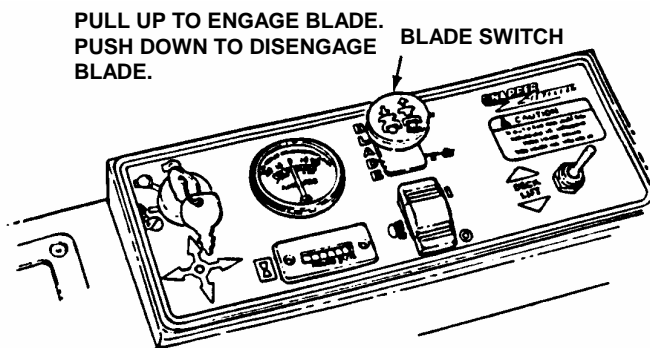

**FIGURE 2.1**
**2.1.3.** Check engine oil and add oil as needed to bring level up to the FULL mark. Refer to engine owner's manual for oil specifications. See Figure 2.1.